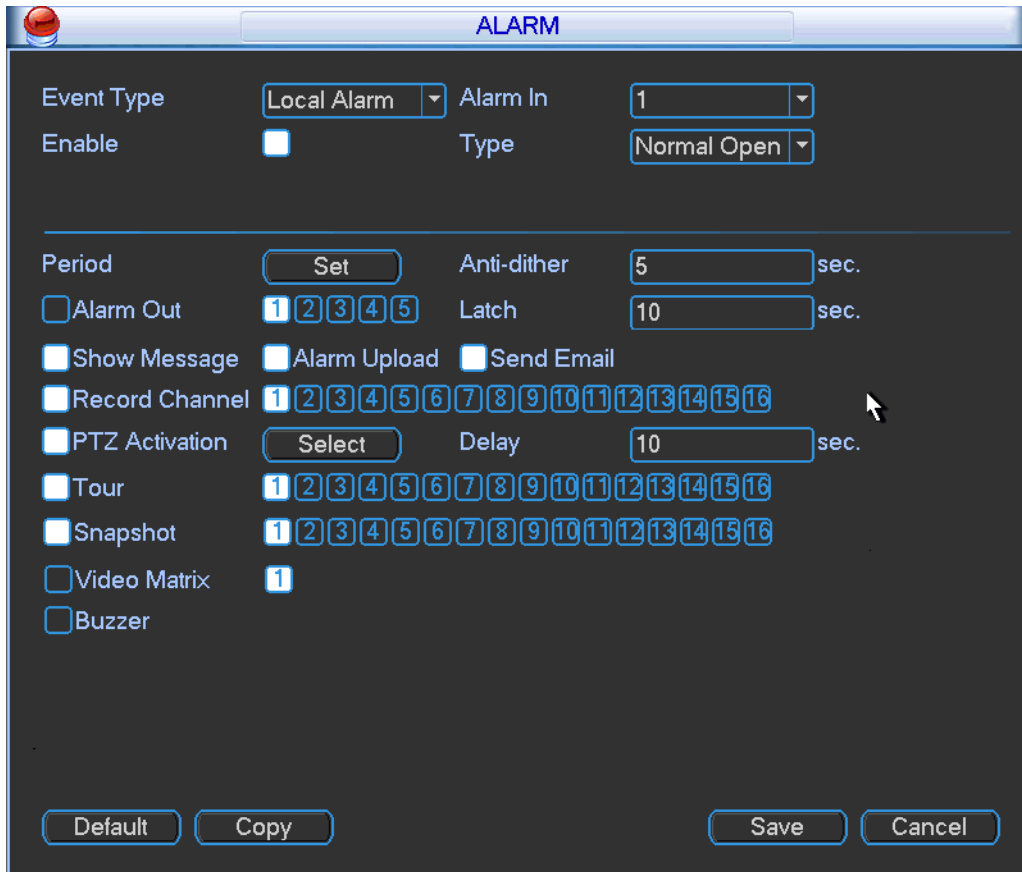
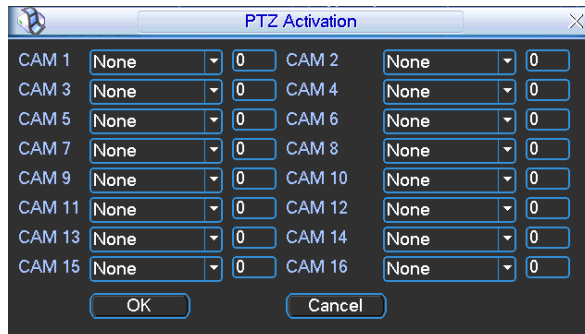

Figure 4-28
Figure 4-29
In the main menu, from Setting to Alarm, you can see alarm setup interface. See Figure 4-28.
Alarm interface is shown as below. See Figure 4-28.
- ✂ In Figure 4-28, click “select” button, you can see an interface is shown as in Figure 4-29. Here you can set the activation operation such as preset tour, pattern and enable.